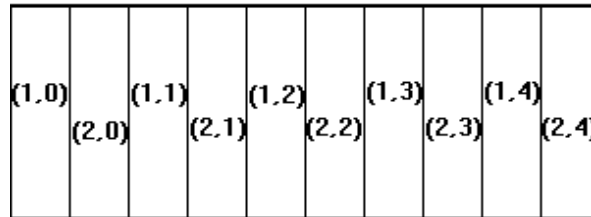
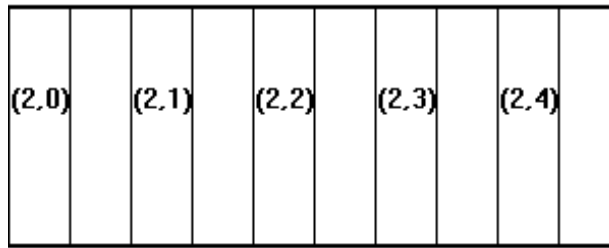

Figure 46. Two-Channel Drawer
Figure 48. Single-Channel Drawer
- Using either tape or small stickers, mark those drives that will be affected with the corresponding (channel,id). Use the List/Locate Drives function to identify the (channel,id) pair for each drive. In Figure 46, the drives for both channel one and channel two have been marked. In this example, we will be migrating the drives from channel two, to a single drawer.
- Figure 46 is an illustration of how the disks are laid out when there are two channels, while Figure 48 illustrates the placement of the moved disks.
If you compare Figure 46 with Figure 48, you will notice that the disks have shifted one slot to the *left*.